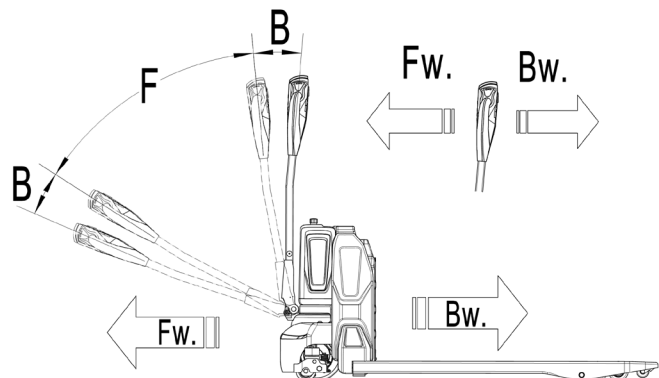

Fig. 9: Travel direction definition
Turn the accelerator (20) to the desired direction forward 'Fw.' or backwards Bw.'(Fig. 9).